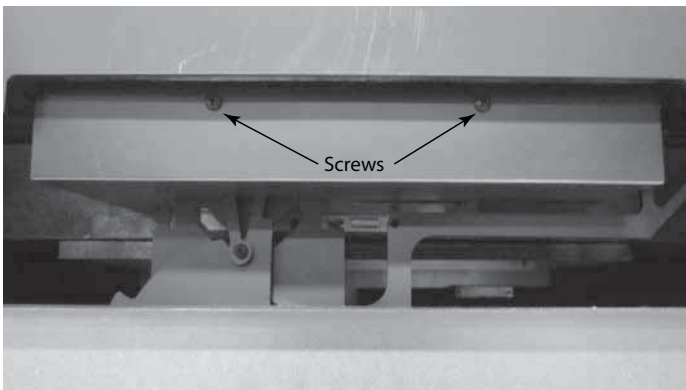

Figure 4.37 Air Chamber Cover
14. Reinstall the air chamber cover. See Figure 4.37.